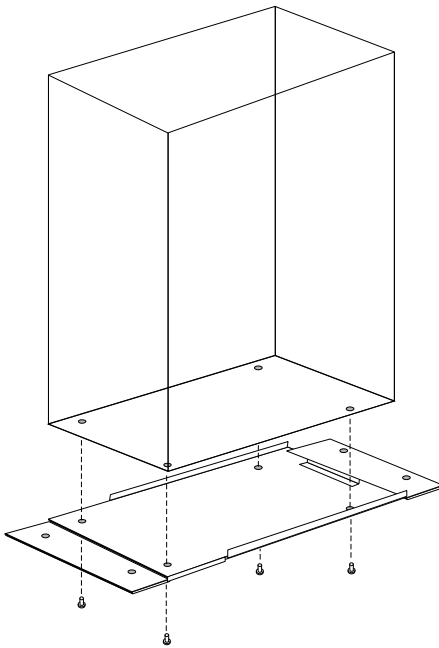

Figure 20. Attaching a PC Server 300 to the mounting plate
- c. Use the screws that you removed from the server pedestal to attach the server to the mounting plate. Insert the screws into the server case from underneath the mounting plate and tighten until snug (see Figure 20).